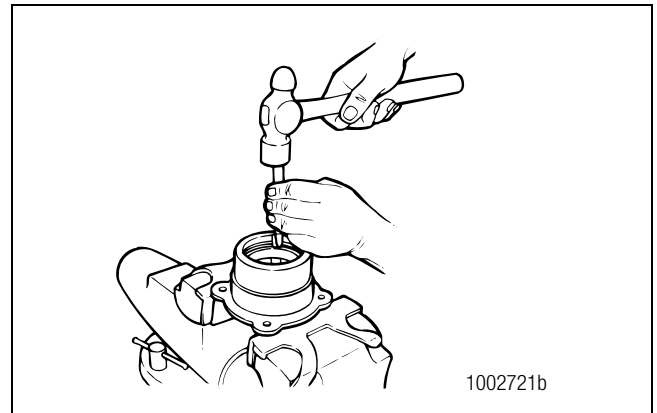

Figure 3.17
4. If necessary, use a brass drift and hammer to carefully tap the inner cup from the cage. Discard the cup. Figure 3.17.